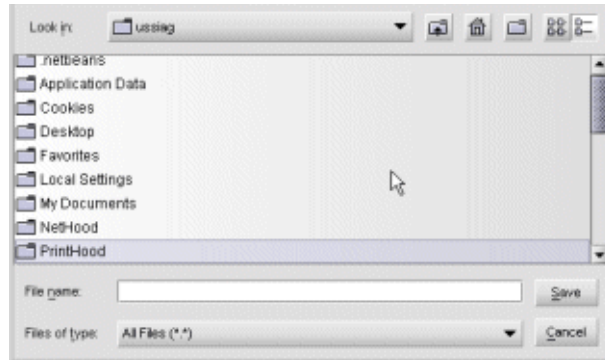

Figure 47: New Firmware Version dialog box
5. Click **New**. The New Firmware Version dialog box displays, as shown in Figure 47.